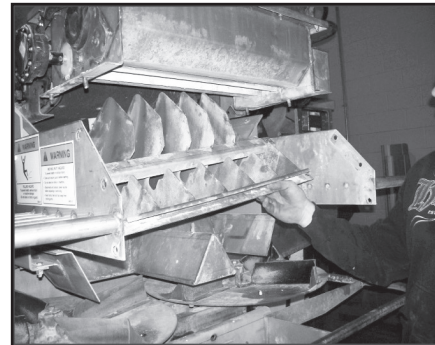

Figure 14
3. Figure 14 - Slide Lower Divider between bottom of MULTIBIN and Spinner Divider as shown.